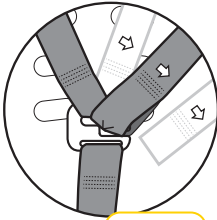
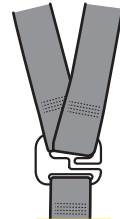

Figure 3
Figure 2
Step 4: Thread each shoulder harness strap back onto the “G” connecting plate through the gate (see Figure 3). The shoulder harness straps are connected to the “G” connecting plate (see Figure 2).
Step 4: Pull to tighten to remove all the slack, from the upper anchorage strap. Do not overtighten as this could cause the restraint to lift off the vehicle seat (Refer to Figure 3)